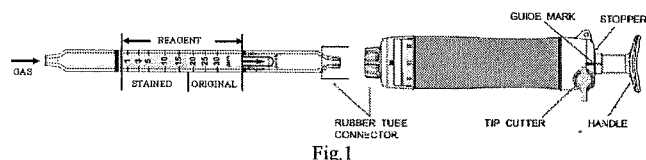

Fig. 1
- ② Insert the detector tube into the aspirating pump securely as shown in Fig. 1. (Arrow mark shall point to the pump.)
- ③ Align the guide marks on the shaft and stopper of the aspirating pump.
- ④ Pull the pump handle at a full stroke until it locks and wait for 1.5 minutes or until the completion of sampling is confirmed with the flow indicator of the pump. (See descriptions about the flow indicator in the instruction manual of the pump.)
- ⑤ Turn the pump handle right or left by 1/4 (90°), push it toward the pump without removing the detector tube from the pump, and repeat the step ③~④ once more.
- ⑥ On completion of sampling, read the scale at the maximum point of the stained layer.
- ⑦ When the concentration is below the scale range, 4 pump strokes can be used to determine concentrations of 0.5 to 12.5 ppm. Then correct the tube reading by correction table. (REFER TO ITEM 3. CORRECTION FOR AMBIENT CONDITIONS AND PUMP STROKE.)